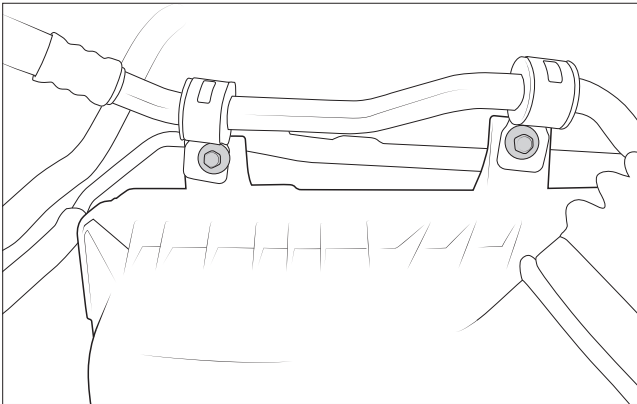

Figure 12
- c. Remove the two bolts holding the AC line to the air box (Fig. 12).